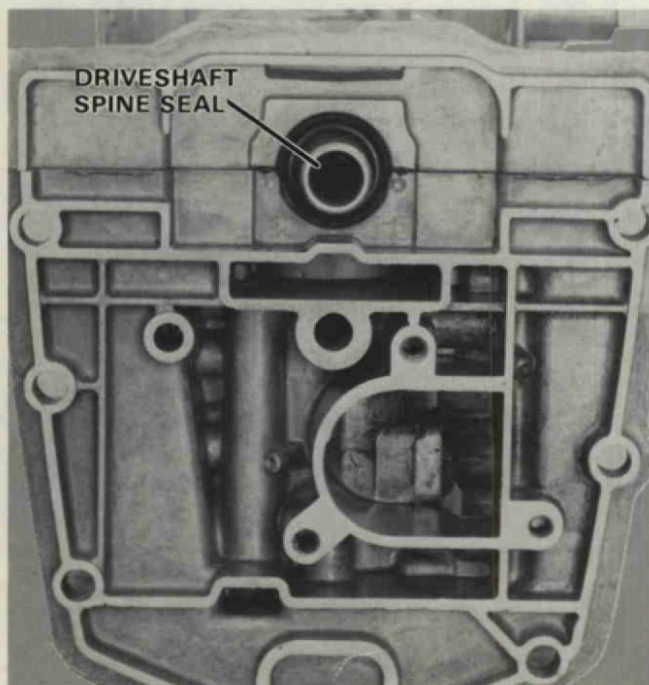

Figure 36. Installing Driveshaft Spine Seal.
7. Install drive shaft spline seal. Figure 36.